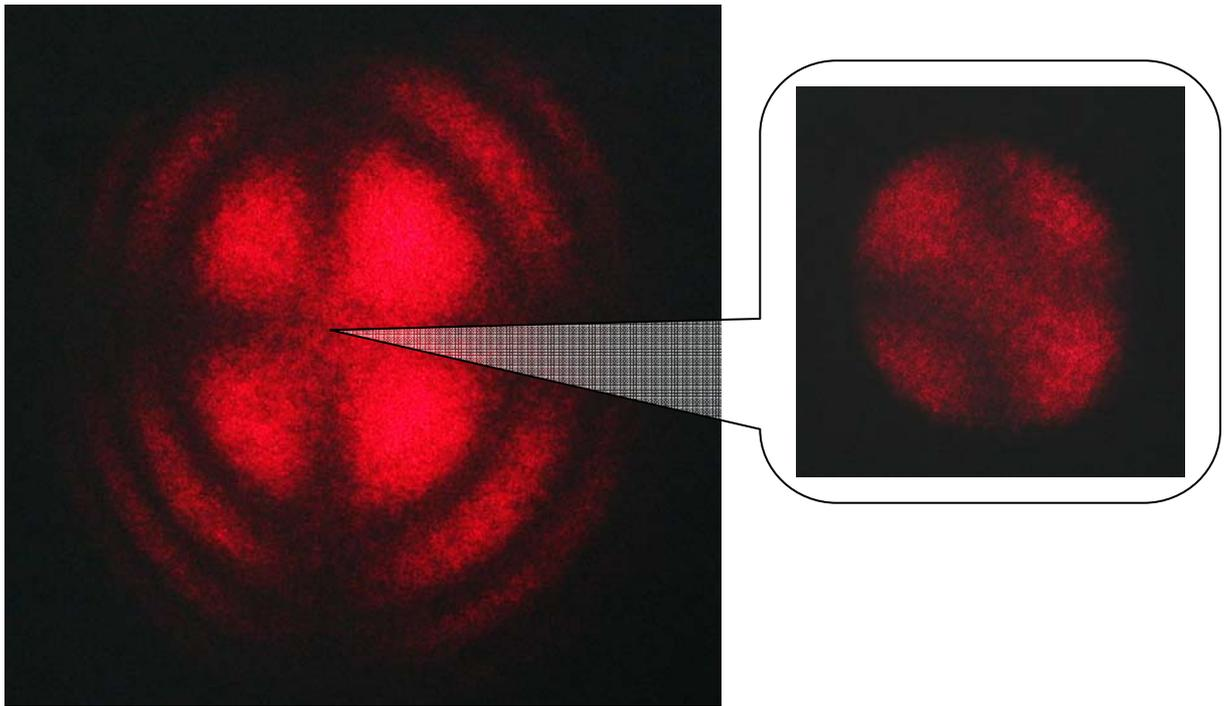

Figure 5. "Maltese Cross"
4. Install the Pulse Picker on the table. The beam should go through the centers of both apertures. By rotating the adjustment screws (Adj. Screw X and Adj. Screw Y) align the back reflection. Place the diffuser between the polarizer № 1 and the shutter (you may use a mat plate or a piece of paper for optic cleaning). You can observe a picture like "Maltese Cross" in a form of a cross on the screen as shown on Fig. 5 (use the IR viewer, you can see only central part). Move the cross to the place where the beam was by rotating the adjustment screws (Adj. Screw X and Adj. Screw Y).